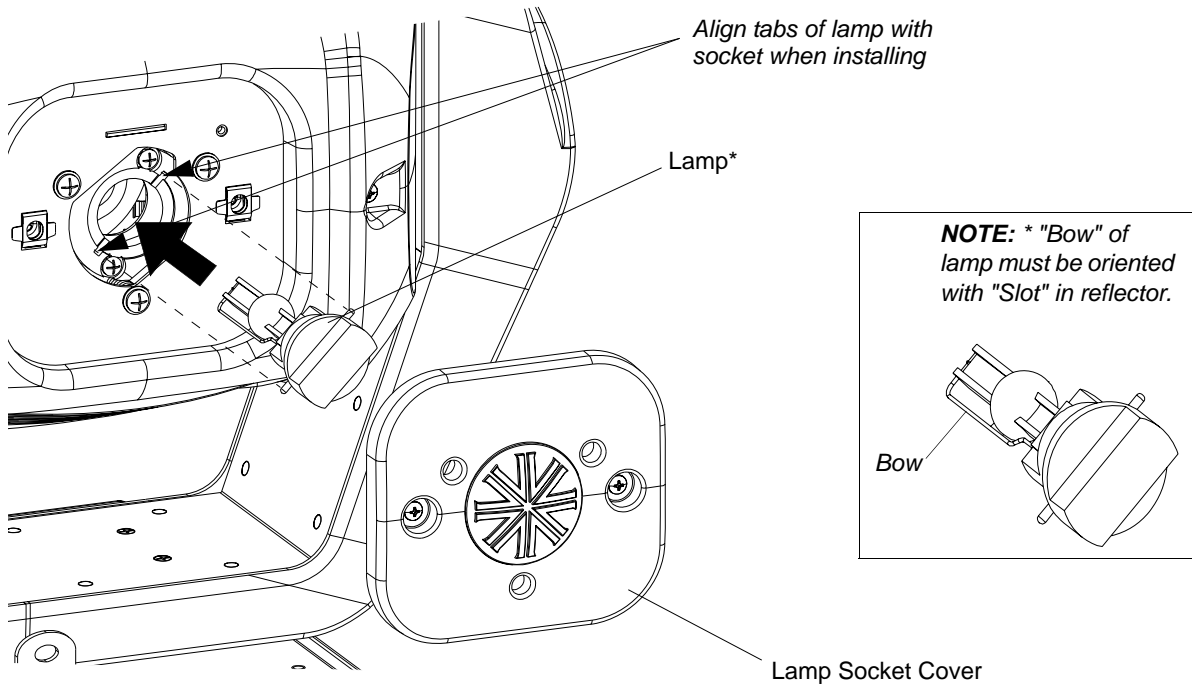

Figure 2-4: Lamp Installation
Step 6. As shown in Figure 2-4, align lamp tabs with lamp socket.